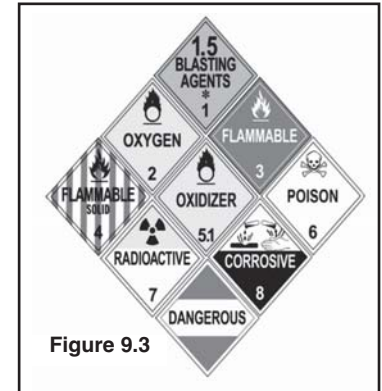

Figure 9.3
**Placards:** Placards are used to warn others of hazardous materials. Placards are signs put on the outside of a vehicle and on bulk packages, which identify the hazard class of the cargo. A placarded vehicle must have at least four identical placards. They are put on the front, rear, and both sides of the vehicle. (See Figure 9.3.) Placards must be readable from all four directions. They are at least 10 3/4 inches square, square-on-point, in a diamond shape. Cargo tanks and other bulk packaging display the identification number of their contents on placards or orange panels or white square-on-point displays that are the same size as placards.